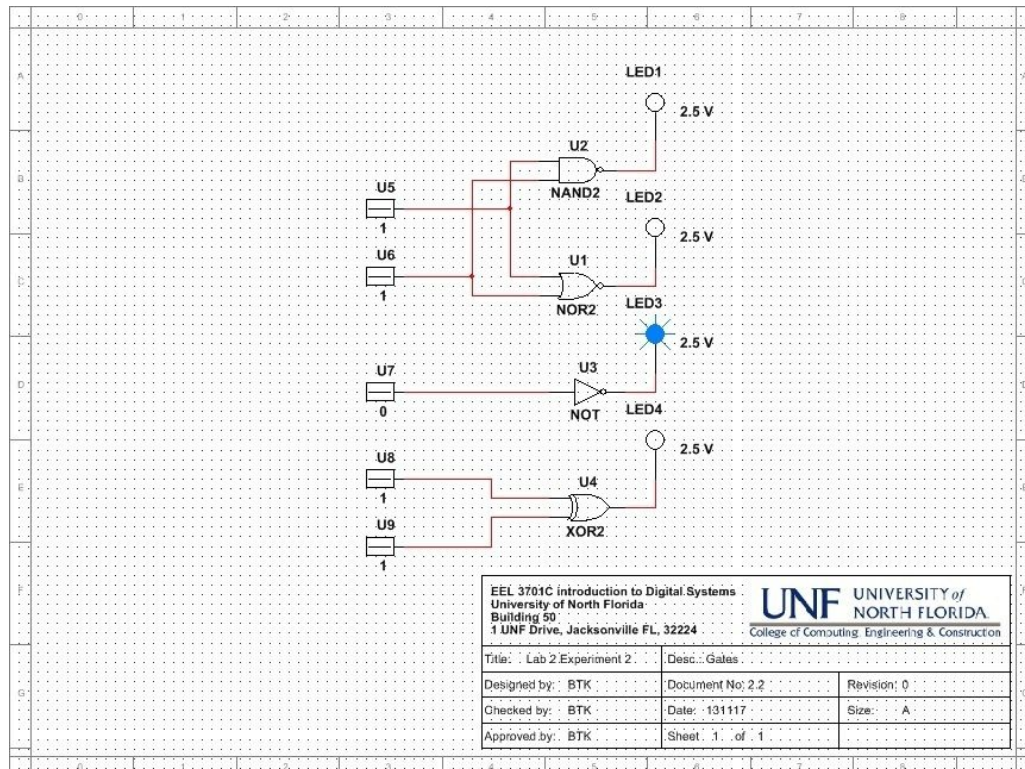

Figure 7. Using the DIGITAL_CONSTANT source.
- 3) For each switch insert a DIGITAL_CONSTANT source and connect it to the gates as the switch was connected. Your schematic should look like Figure 7. Set the values of each source by right-clicking the properties for each DIGITAL_CONSTANT symbol and changing the input on the value tab in the properties pop-up window.